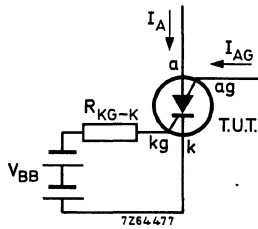

Fig. 5.
**Holding current at  $R_{KG-K} = 10 \text{ k}\Omega$  (see Fig. 5)**